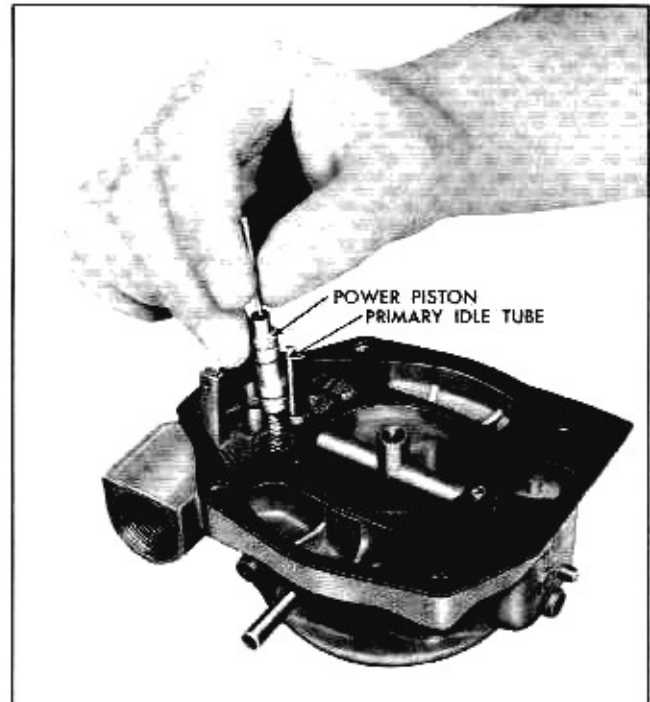

Fig. 6B-21 Removing Power Piston
4. Remove pump return spring (Fig. 6B-24).